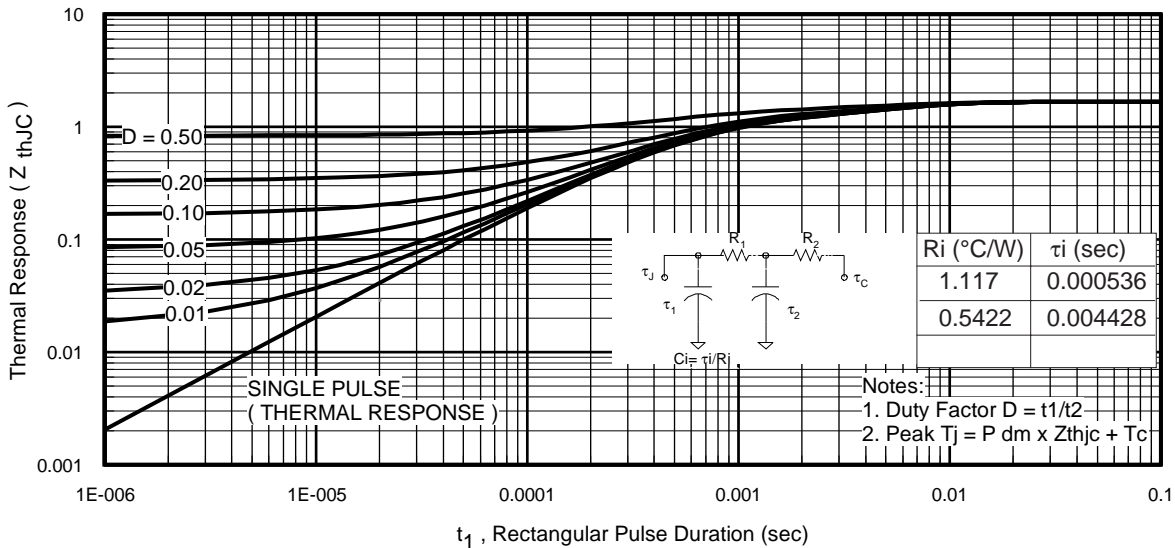
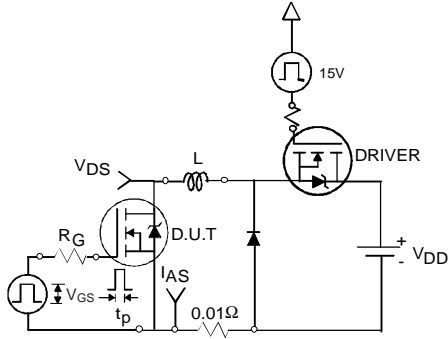

Fig 11. Maximum Effective Transient Thermal Impedance, Junction-to-Case
Fig 12a. Unclamped Inductive Test Circuit
3. Equation below based on circuit and waveforms shown in Figures 12a, 12b.
$Z_{thJC}(D, t_{av})$ = Transient thermal resistance, see figure 11)
- ① Repetitive rating; pulse width limited by max. junction temperature. (See fig. 11).
- ② Limited by T_{Jmax} ; starting $T_J = 25^\circ\text{C}$, $L = 0.09\text{mH}$, $R_G = 25\Omega$, $I_{AS} = 42\text{A}$, $V_{GS} = 10\text{V}$. Part not recommended for use above this value.
- ③ Pulse width $\leq 1.0\text{ms}$; duty cycle $\leq 2\%$.
- ④ C_{OSS} eff. is a fixed capacitance that gives the same charging time as C_{OSS} while V_{DS} is rising from 0 to 80% V_{DSS} .
- ⑤ Limited by T_{Jmax} , see Fig.12a, 12b, 15, 16 for typical repetitive avalanche performance.
- ⑥ This value determined from sample failure population. 100% tested to this value in production.
- ⑦ When mounted on 1" square PCB (FR-4 or G-10 Material). For recommended footprint and soldering techniques refer to application note #AN-994